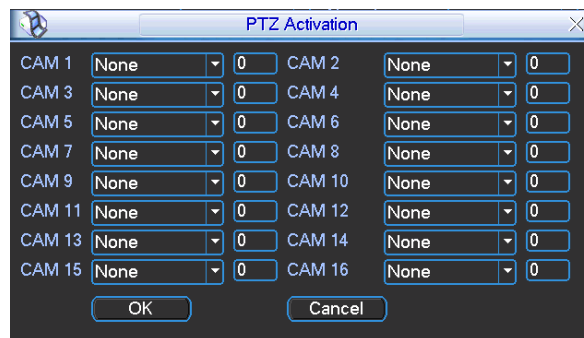

Figure 3-37
- PTZ activation: Here you can set PTZ movement when alarm occurs. Such as go to preset, tour& pattern when there is an alarm. Click “select” button, you can see an interface is shown as in Figure 3-37.